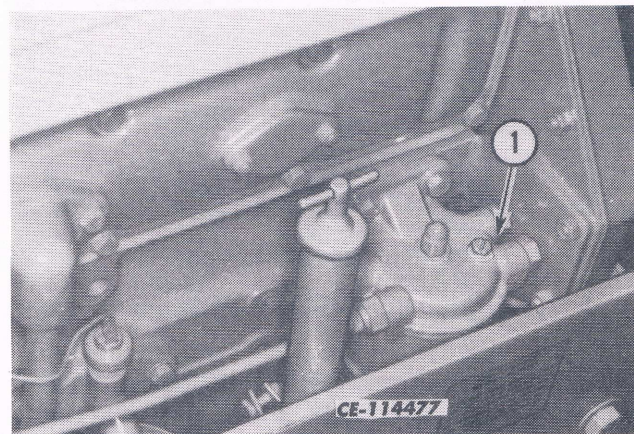

Fig. 29. Primary Fuel Filter Vent Screw
1. Backout the vent screw (1, Fig. 29) of the primary fuel filter until the outflowing fuel is free of air. Retighten the vent screw.